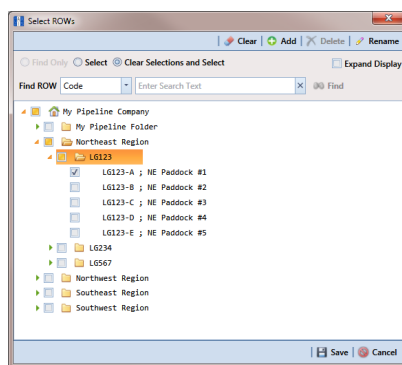

Figure 14-27. Select ROWs
- 1 Select one or more pipeline segments to work with in the *Select ROWs* window. Click  **Save** to close the window (Figure 14-27).
- 1 Select the pipeline segment you want to work with in the *Select ROWs* window. Then click  **Save** to close the window (Figure 14-27, page 685).